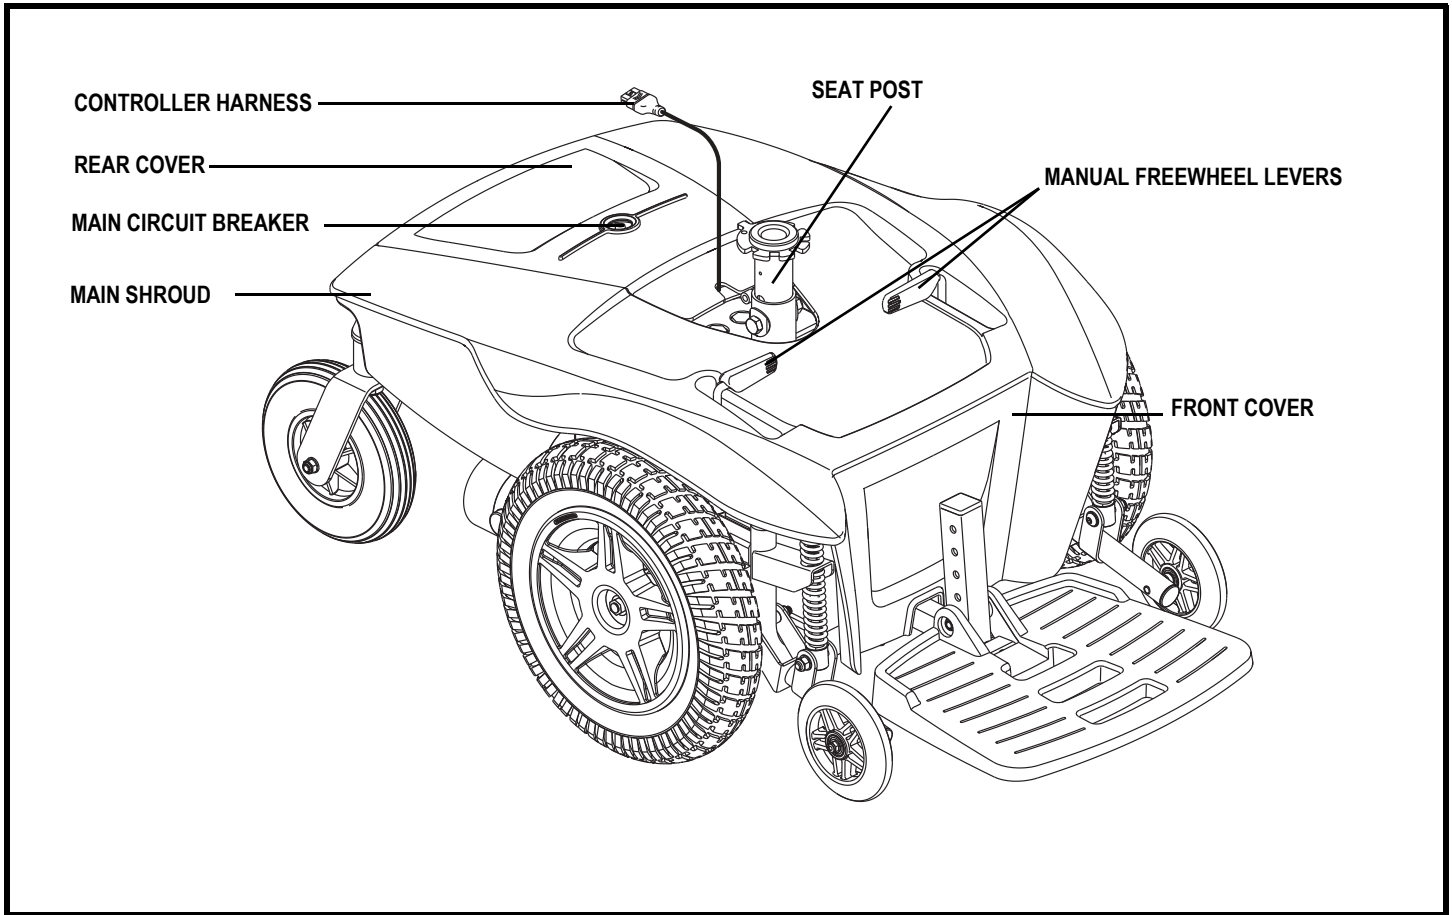

Figure 6. The Jazzy Select HD Power Base
5. Plug the controller harness into the connector on the power base. See figure 6.